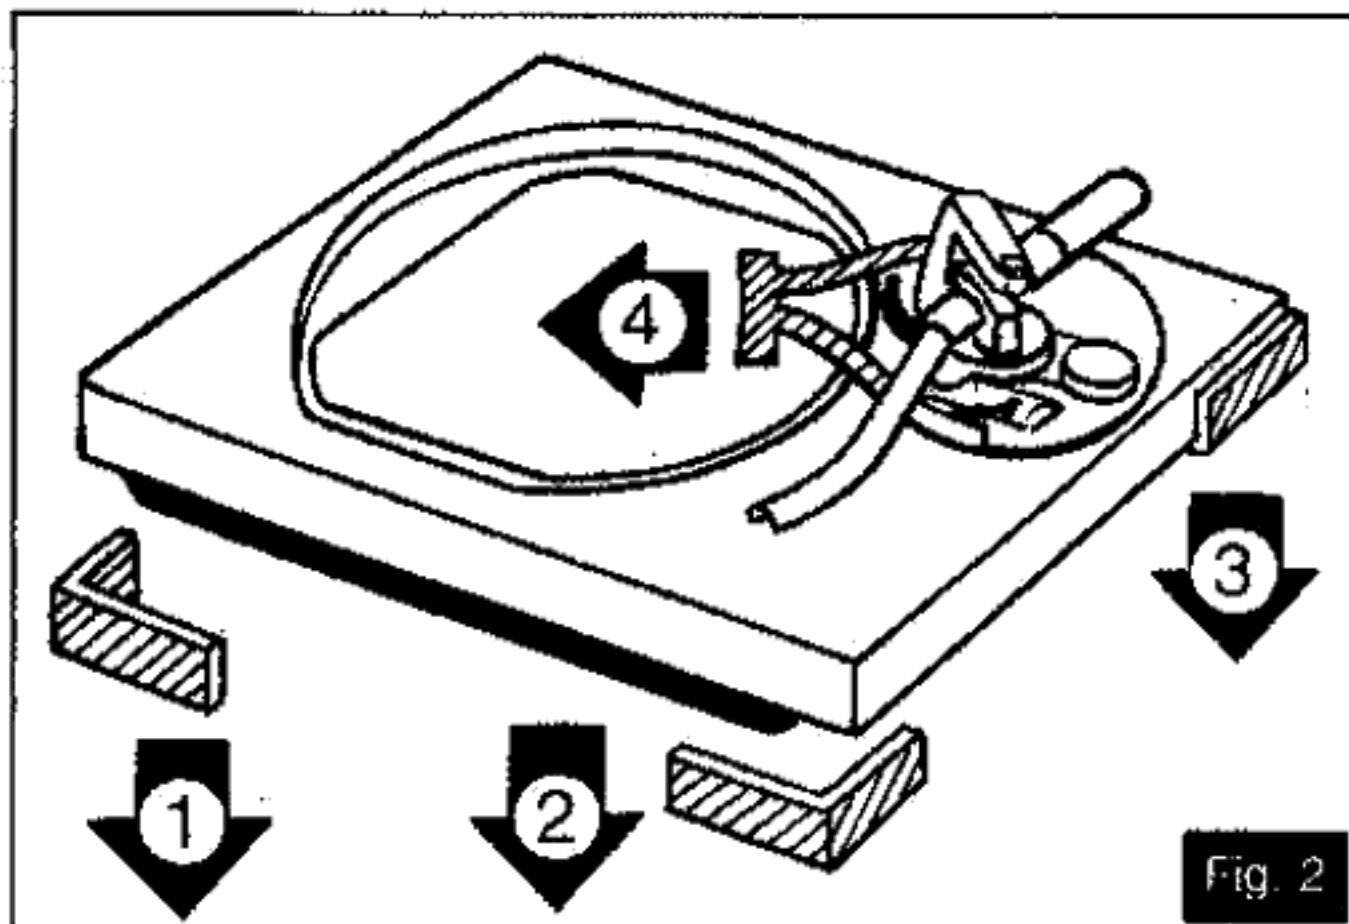

Fig. 2
The sequence for removal is ①-④. (See Fig. 2.)